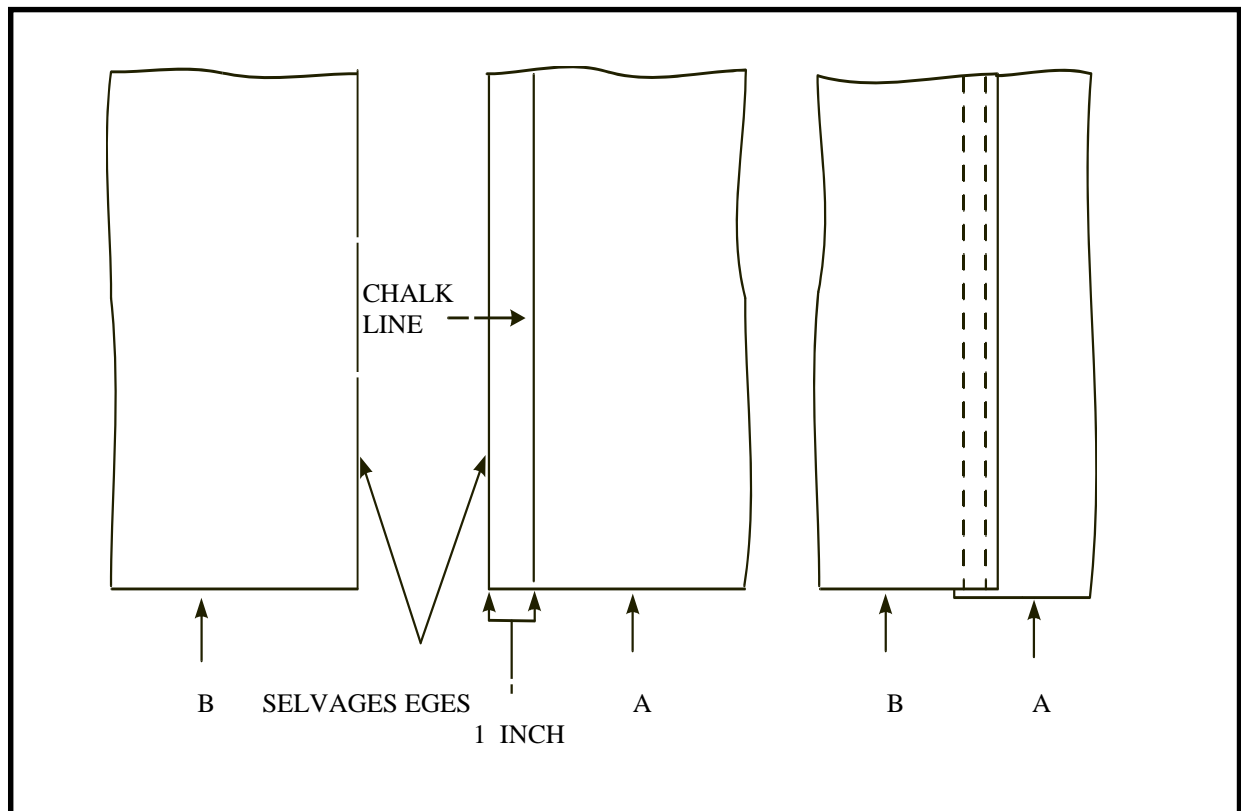

Figure 8-6. Flat seam
c. Flat Seam (Figure 8-6). A flat seam is used to join two pieces of canvas that have selvage edges. A selvage edge is a woven edge that will not unravel. A flat seam is used when a seam has to be finished on the outside and the inside, such as the seams of tents, tarpaulins, and truck covers. To make a flat seam--
- (1) Place piece A faceup on a worktable with the selvage edge to the left.
- (2) With a ruler and chalk, measure and mark a chalk line 1 inch from and parallel to the selvage edge.
- (3) Place piece B faceup on top of piece A so that the selvage edge of B is on the chalk line.
- (4) Tack the beginning of the seam, and sew the two pieces together with a row of stitches 1/8 inch to the left of the selvage edge of B. Tack the end of the seam.
- (5) Turn both pieces of canvas facedown.
- (6) Tack the beginning of the seam, and sew a second row of stitches 1/8 inch to the right of the selvage edge of A. Tack the end of the seam.